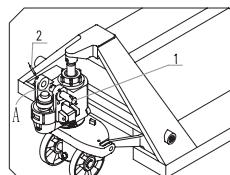

Fig.1
See figure 1. Pull out the pin roll (1). Insert the hand grip (3) to place (A). Couple the hand grip (3) and pump body (5) with pin roll (1). Then get the spring pin (2) through pin roll (1) and fix it. Put the chain 4 of hand grip get across the middle hole of pin roll (1).